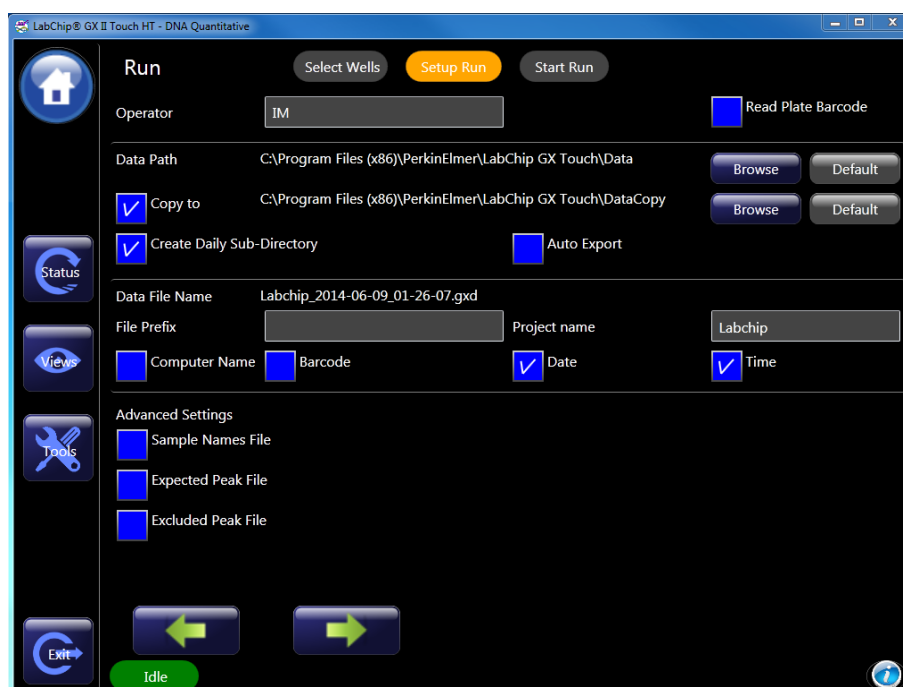

Figure 10. Run setup screen.
- 4 In the *Setup Run* tab, select the operator name, the option to read barcode, the destination of the file, the inclusion of sample names, expected peaks, and excluded peaks and the filename convention. Select *Auto Export* to export results tables automatically (Figure 10). Touch the green arrow button.